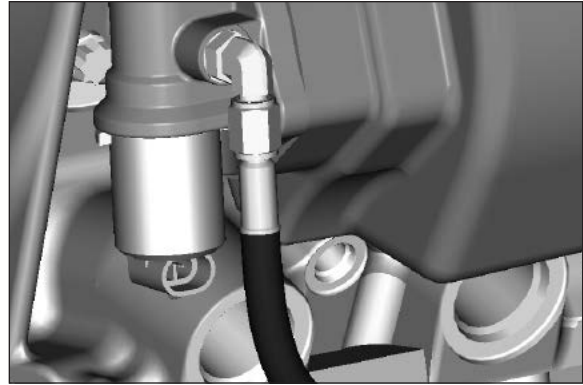

Fig. 36
- Securely attach the high pressure line to the valve. Tighten hose end fitting 2 flats from finger tight (**Fig. 36**). If wet spline option connect hose to tee fitting on the flange. Not available for the 287 Series Installations.